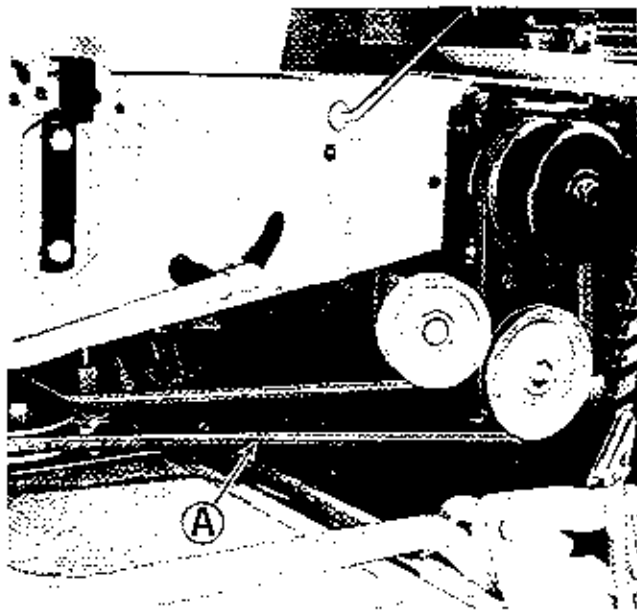

Figure 5. Mower drive belt installed.
8. See figures 5 and 6. Install the mower drive belt (A) over the inside groove of the power take off pulley around the idler pulleys, and the mower drive pulley. As you install the mower drive belt, be sure it is twisted as shown.
2. See figure 5. Remove the mower drive belt (A) from the mower drive pulley, idler pulleys, and power take off pulleys.